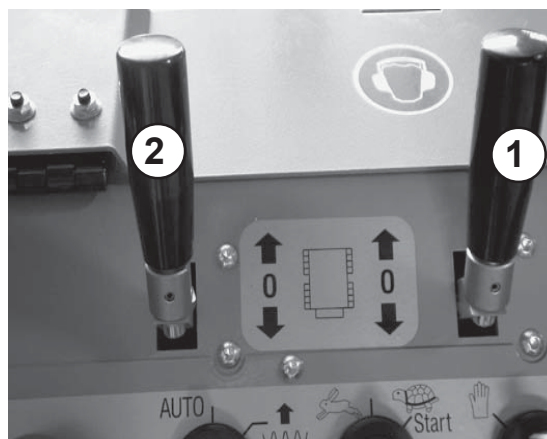

Figure 27
- Let the engine idle for a certain time, depending on the ambient temperature (refer to the chart in figure 27).